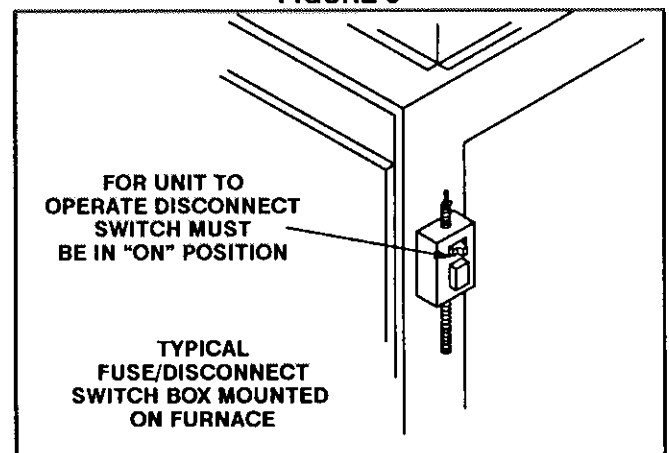

FIGURE 6
- 2- Turn off all electrical power to furnace. See figure 6.
- 6- Wait five (5) minutes to clear out any gas. If you then smell gas, **STOP!** Immediately call your gas supplier from a neighbor's phone. Follow the gas supplier's instructions. If you do not smell gas go to next step.